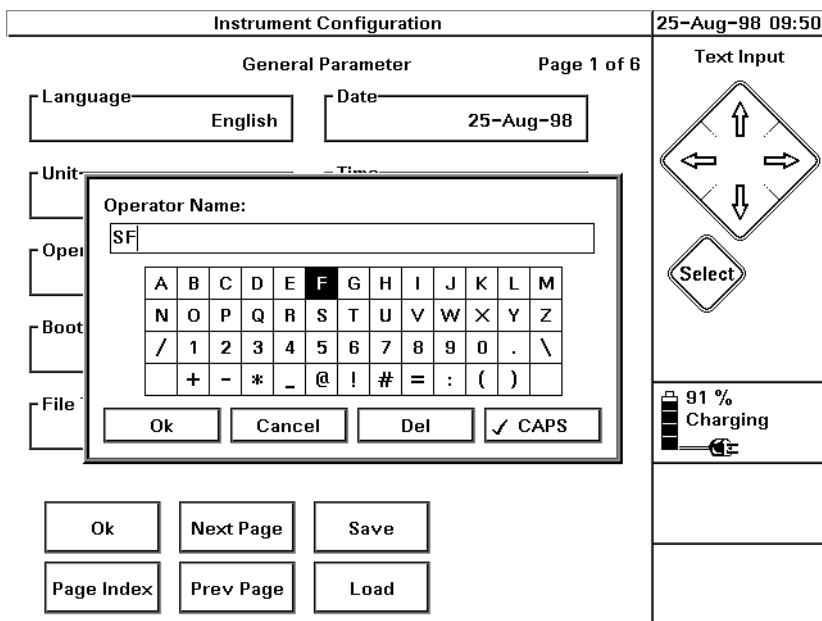

Figure 5-3 Keyboard to Enter Text
- 3 Move to the box headed *Comment 1* and press *SELECT*. You see a keyboard on the screen (see Figure 5-3), Add letters from the keyboard until your comment is complete.